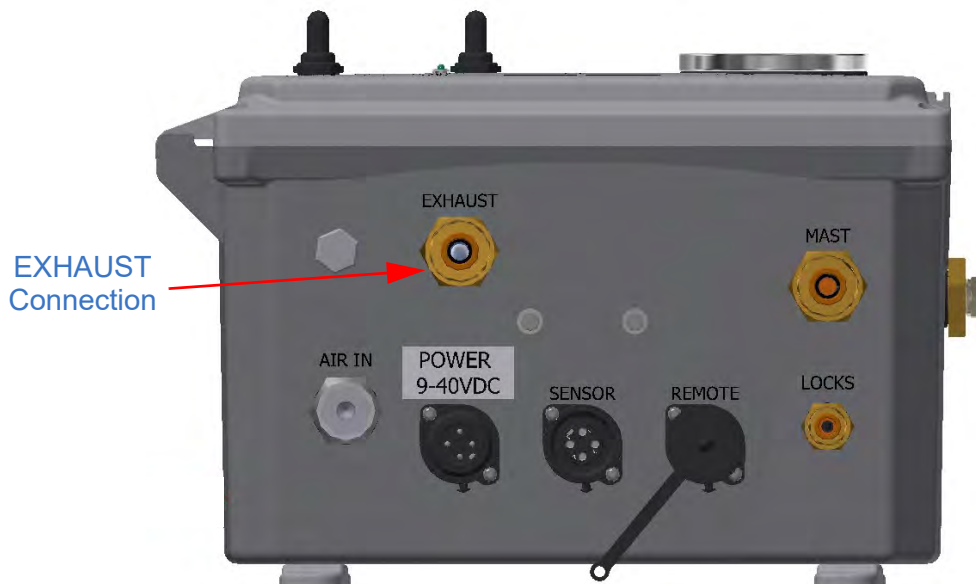
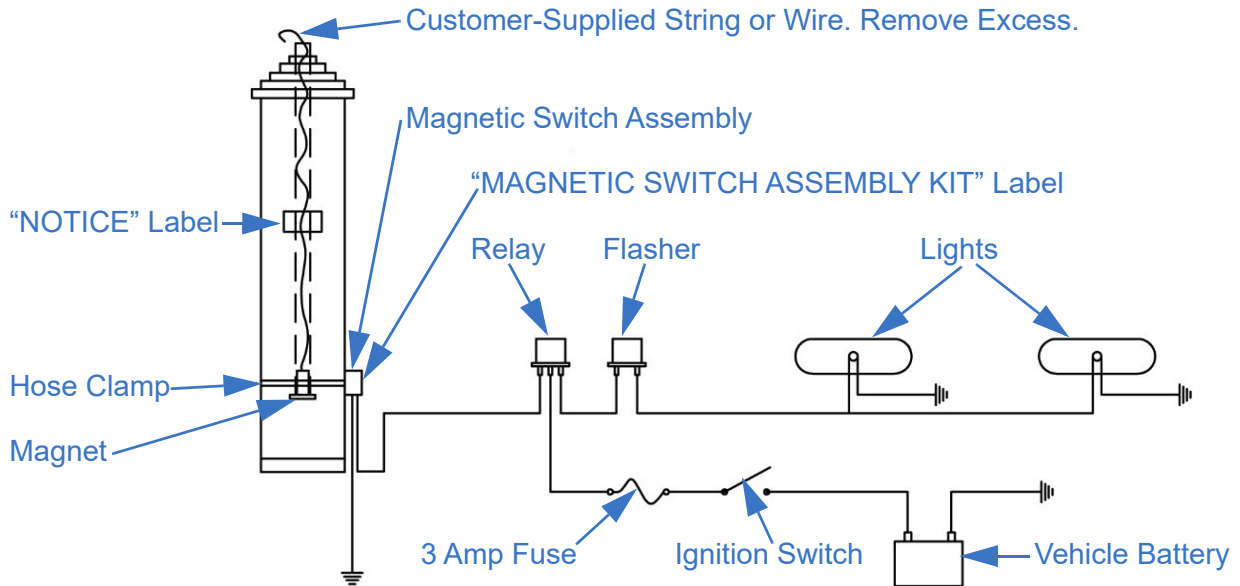

Figure 5-24 Control Box “EXHAUST” Connection
Figure 5-33 Wire the Magnetic Switch Assembly Kit
If desired, a 3/8 inch air hose can be added to the “EXHAUST” connection on the control box to route away moisture (Figure 5-24).
- b. 7-42, 9-50, 10-60, 10.3-60, 10.8-76, 8-39, 11.3-59, 9.8-65.6, and 14.3-80: Use 16 AWG stranded wire (customer-supplied) to connect the flasher, lights, and relay to the wires exiting the magnetic switch assembly (Figure 5-33 and Figure 5-24).
14. Attach the “NOTICE” label in a visible area on the base tube (Figure 5-33).
15. Attach the “MAGNETIC EXTENSION WARNING KIT” label to the magnetic switch assembly (Figure 5-33).